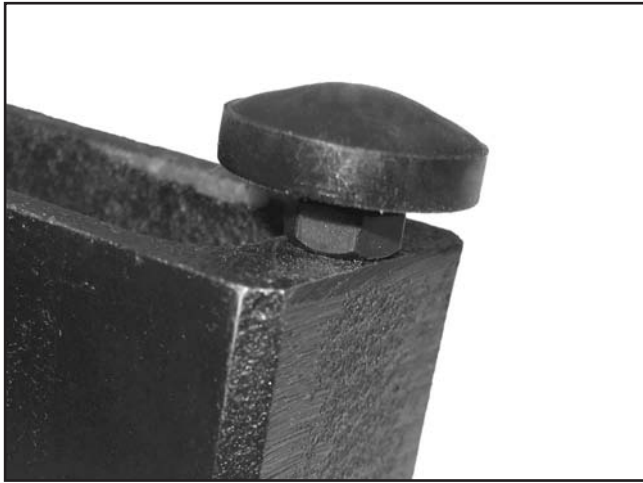

Figure 37. Installed rail pad.
4. Thread the M6-1 hex nut onto the rail pad, then thread the rail pad into the fence (see **Figure 37**).